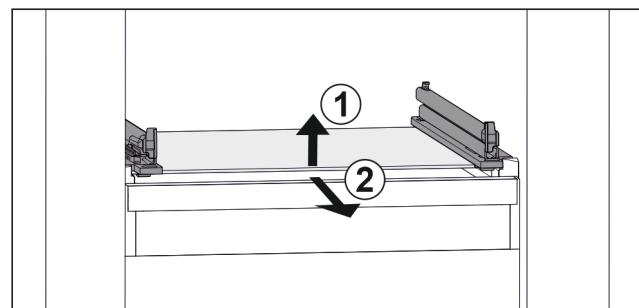

Fig. 46 Example illustration of glass shelf
- Lift glass shelf at the front. Fig. 46 (1)
- Take out glass shelf to the front. Fig. 46 (2)